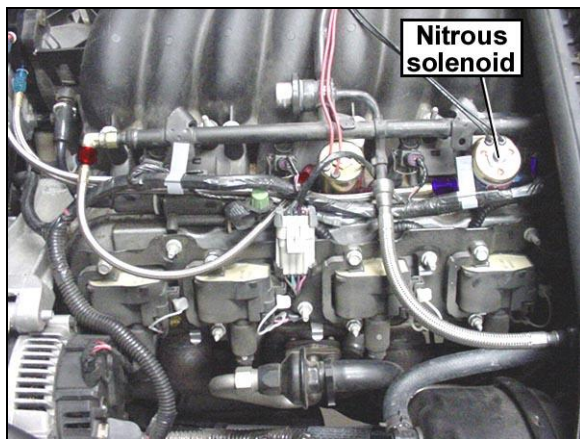

Figure 12
8. The nitrous solenoid can mount to the 4th intake bolt back (2nd from rear) as shown and the fuel solenoid can mount to the third (center) intake bolt near the regulator. The nitrous solenoid should have the **IN** sides to the rear and the fuel solenoid should have the **OUT** side to the rear (**Figure 12**).